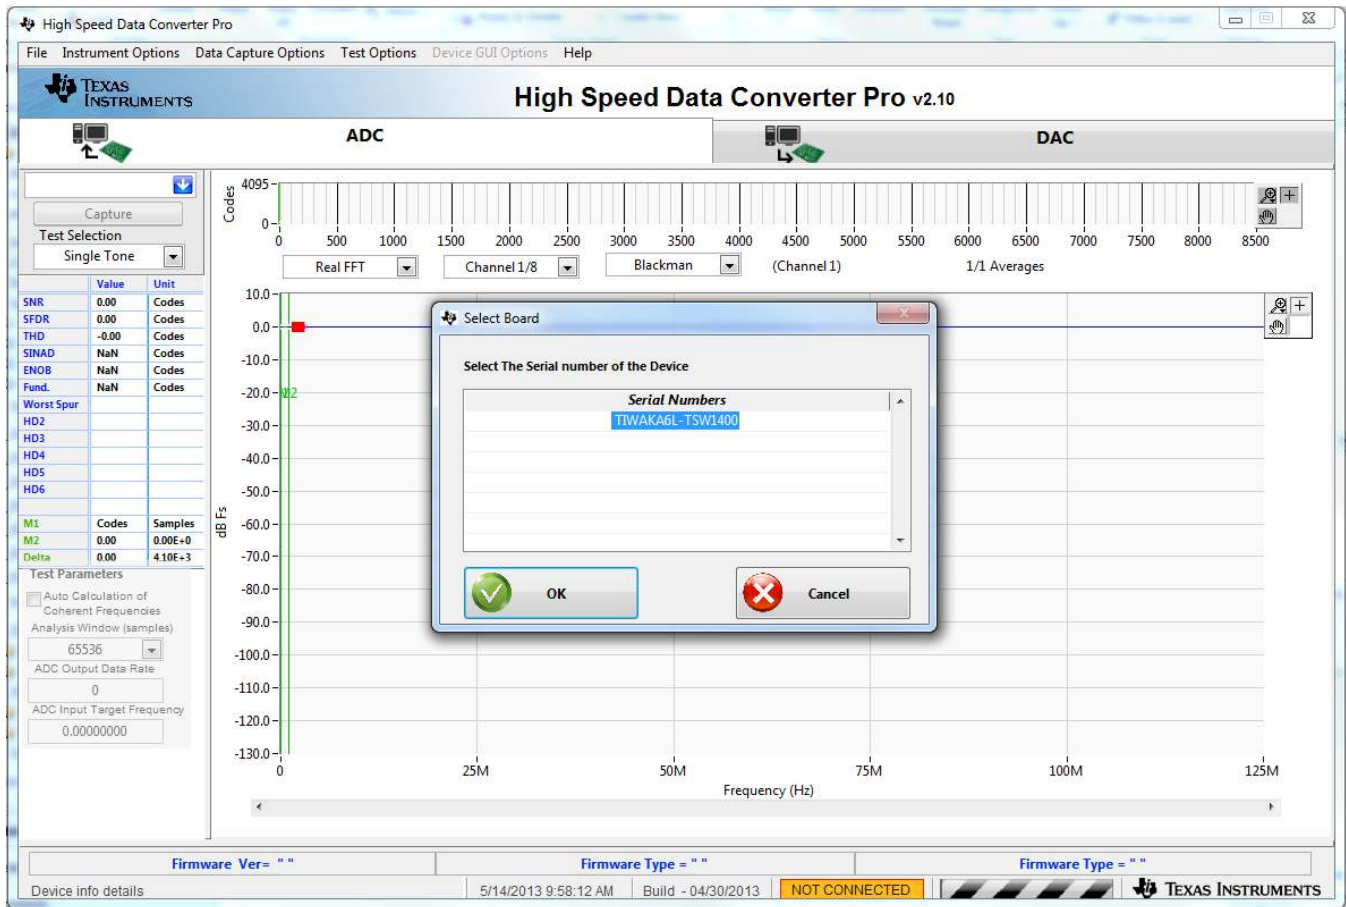

Figure 22. TSW1400 GUI Setup (a)
1. With the setup outlined in Figure 19 established, launch the *High Speed Data Converter Pro* GUI. The GUI should automatically detect the serial number of the TSW1400 EVM, connected as shown in Figure 22. Click on OK.